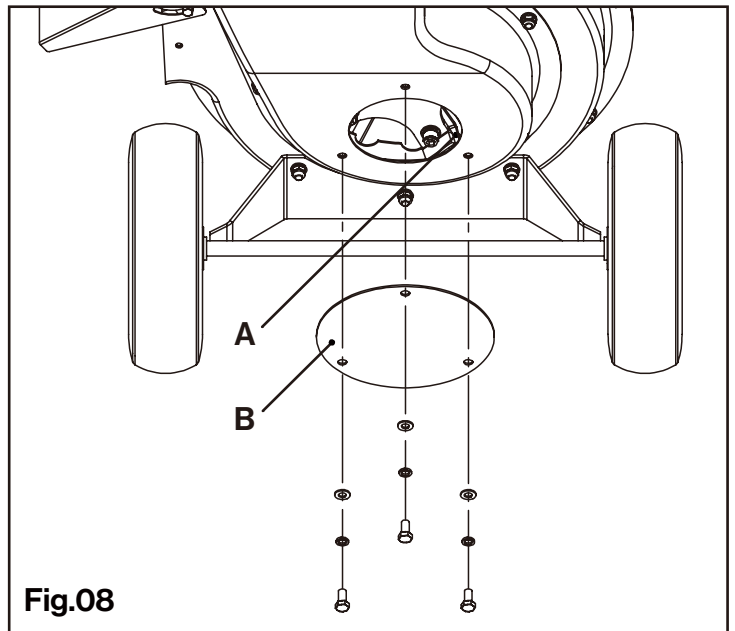

Fig.08
## Inspect / Rotate Shredding Hammers (See Fig.08)
2. Remove the small circular access panel (B) from the back of the shredder housing. (See Fig.08)
3. Inspect the cutting edges of the Y-hammers (A).